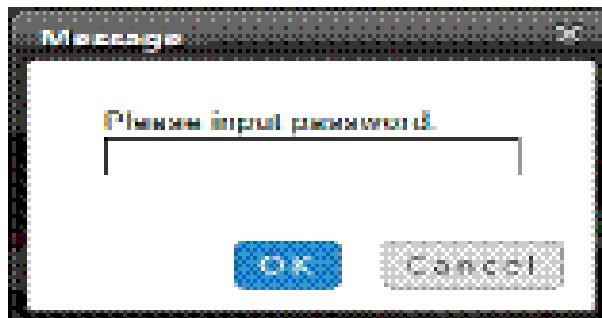

Figure 4-46 Password textbox for clearing the Timeout
- Click [Clear] Time-out link. The screen will prompt for a password. Enter the password in the textbox and the controllable status will be normalized within a period of 5 seconds. Refer to Figure 4-46 to see the dialog box where the user will be prompted for a password to resume normal operation.